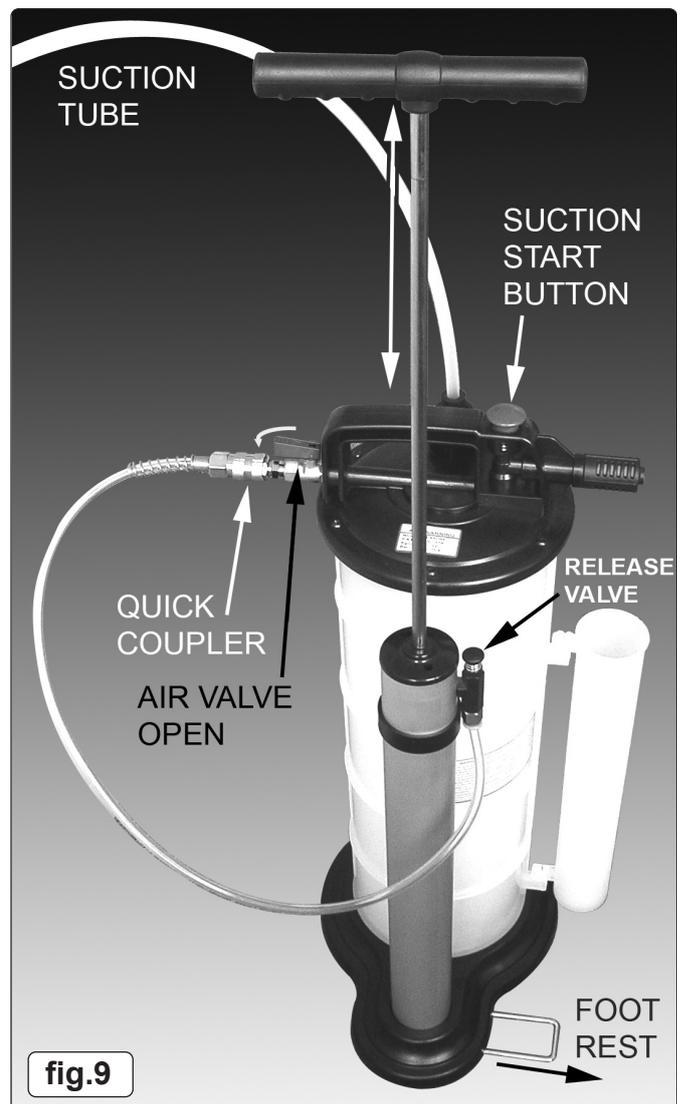

fig.9
- 6.2. Extend the retractable foot rest as shown in fig.9.
- 6.3. Referring to fig.9 connect the quick coupler on the end of the air hose from the hand pump to the air valve coupling and open the air valve (only relevant to TP6904.V2).